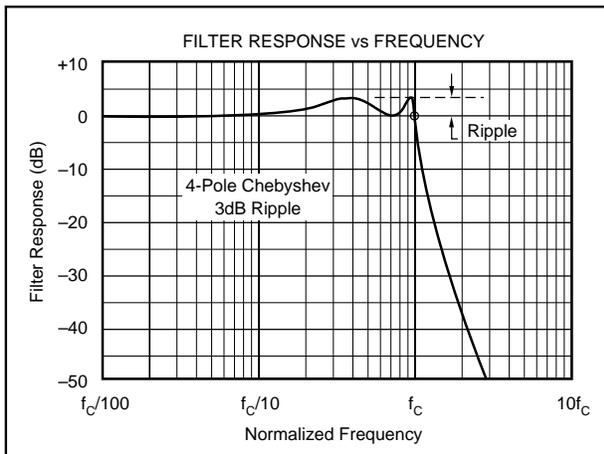
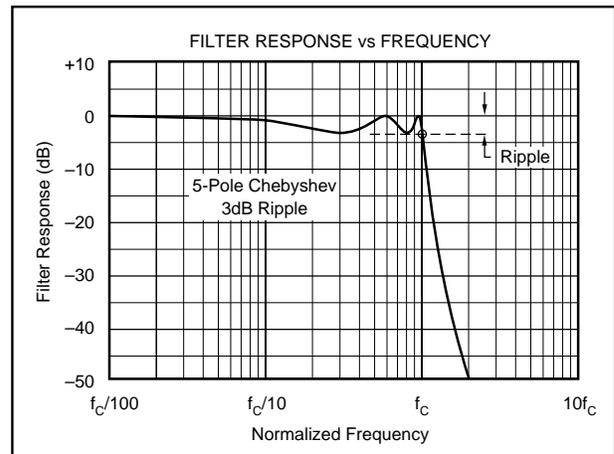

FIGURE 1A. Response vs Frequency of Even-Order (4-pole),  $3\text{dB}$  Ripple Chebyshev Filter Showing Cutoff at  $0\text{dB}$ .
FIGURE 1B. Response vs Frequency of Odd-Order (5-pole),  $3\text{dB}$  Ripple Chebyshev Filter Showing Cutoff at  $-3\text{dB}$ .
**Chebyshev** (equal ripple magnitude). (Also transliterated Tschebychev, Tschebysheff or Tchevysheff.) This filter type has steeper attenuation above the cutoff frequency than Butterworth. This advantage comes at the penalty of amplitude variation (ripple) in the pass-band. Unlike Butterworth and Bessel responses, which have  $3\text{dB}$  attenuation at the cutoff frequency, Chebyshev cutoff frequency is defined as the frequency at which the response falls below the ripple band. For even-order filters, all ripple is above the  $0\text{dB}$ -gain DC response, so cutoff is at  $0\text{dB}$ —see Figure 1A. For odd-order filters, all ripple is below the  $0\text{dB}$ -gain DC response, so cutoff is at  $-(\text{ripple})\text{dB}$ —see Figure 1B. For a given number of poles, a steeper cutoff can be achieved by allowing more pass-band ripple. The Chebyshev has even more ringing in its pulse response than the Butterworth.